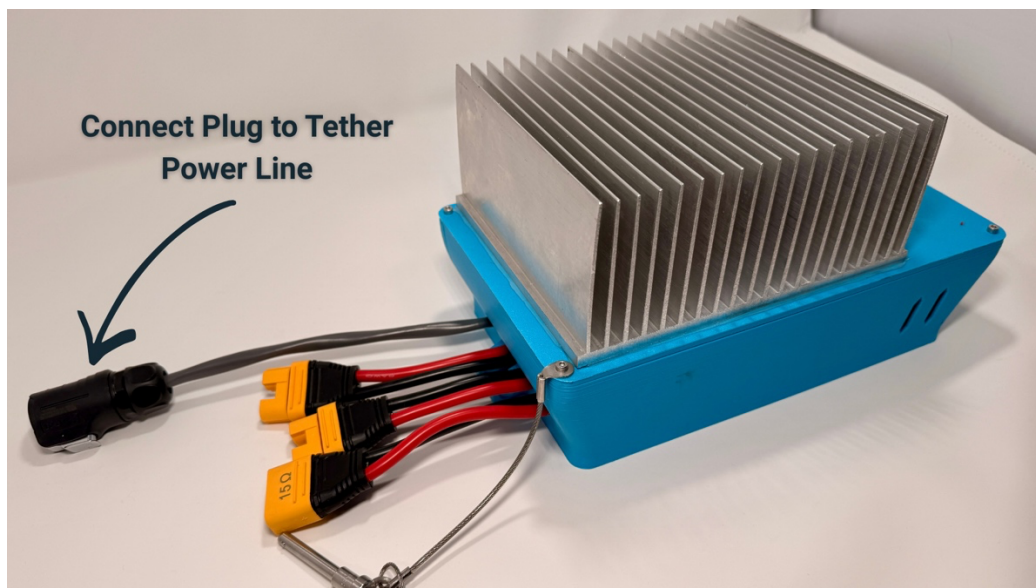

Fig 1.7
- Plug tether into the **air unit**. (Fig 1.7)